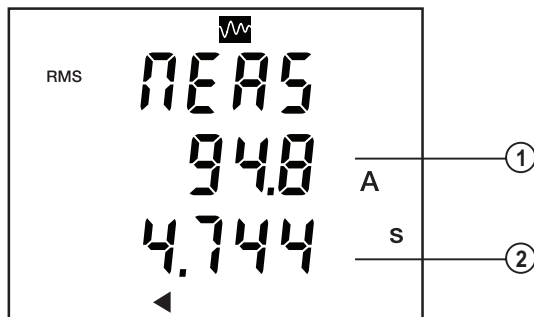

Figure 4-18
- As soon as the motor starting threshold is reached, the timer is started (Fig. 4-18, No. 2).
- Once the motor to be monitored is running, the Model 8220 waits until the effective half-cycle current goes below the current set threshold (end of start threshold). The effective current calculated over one second is continuously displayed (Fig. 4-18, No. 1). The unit automatically moves on to Step 4.